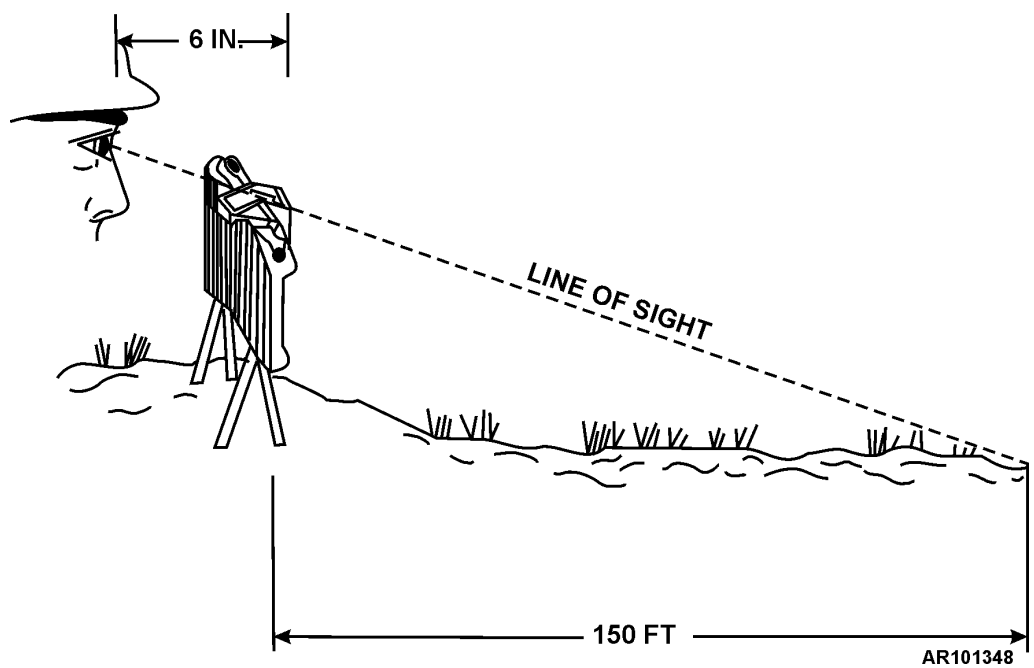

Figure 2-12.3. Aiming antipersonnel mine M18A1 with non-electric initiation system (equipped with knife-edge sight).
- (2) Turn legs downward and spread about 45-degrees. Twist legs so that one protrudes ahead of the mine; the other, behind mine. Position mine with surface marked FRONT TOWARD ENEMY and arrows on top of case pointing in direction of enemy or desired area of fire.
c. *Aiming of Mines with Knife-edge Sight (fig. 2-12.3).*
- (1) Select a point approximately 50 meters in front of the mine at ground level.
- (2) Position eye approximately 6 inches to the rear of the sight. Aim mine by aligning two edges of sight with aiming point.